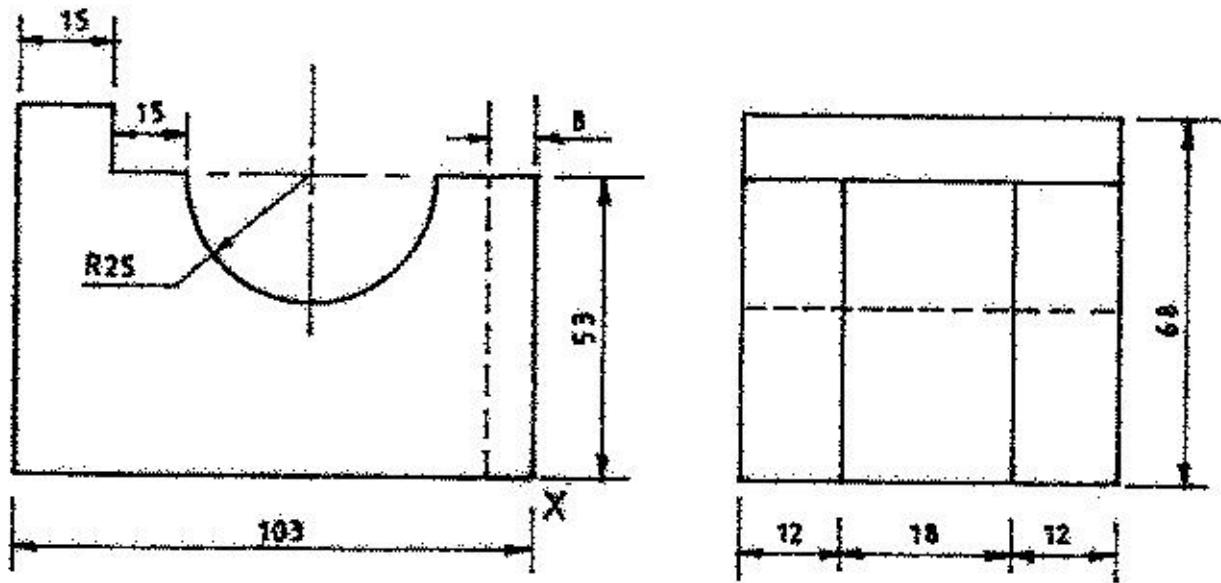

Fig. 2
2. Figure 2 shows two views of a solid drawn in 3rd angle projection. Draw an isometric view of the object making corner X the lowest point.